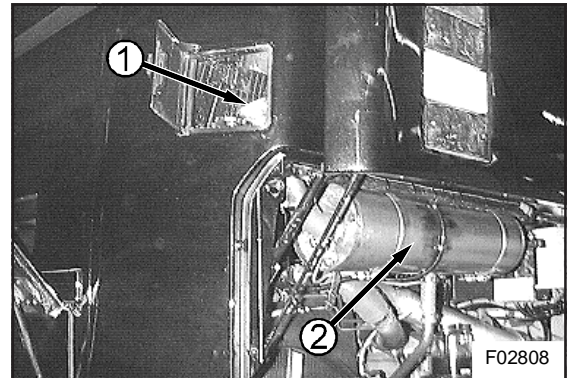

Figure 2: Radiator filler cap (1) and surge tank (2)
- 5 Remove radiator filler cap (see Figure 2) by slowly turning anti-clockwise.